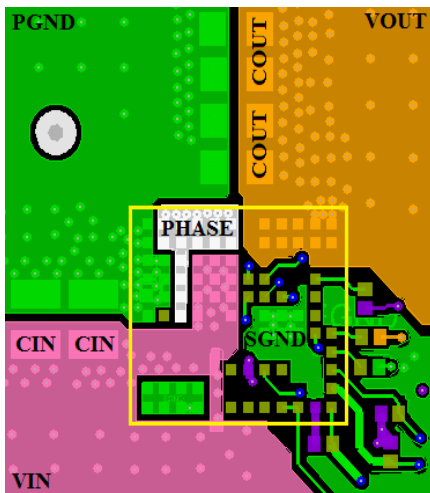
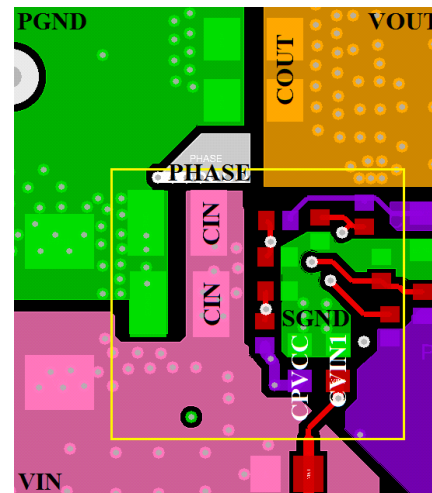

Figure 2. Layout Example - Top Layer
Figure 3. Layout Example - Bottom Layer
- (1) Renesas recommends using a six-layer PCB board. Use the top and bottom layer to route VIN and VOUT. Use a full ground plane in the internal layers (underneath the module) with shared SGND and PGND to simplify the layout design. Use another full ground plane directly above the bottom layer. Use the other internal layers to route the remote sense, PGOOD, SCL, SDA, and SALERT signals.
- (2) Place the input capacitors and high frequency decoupling ceramic capacitors between VIN and PGND as close to the module as possible. The loop formed by the input capacitors, VIN, and PGND must be as small as possible to minimize high frequency noise. Place the output ceramic capacitors close to VOUT. Use a copper plane to connect the output ceramic capacitors to the load to avoid any parasitic inductances and resistances. See Figures 2 and 3 for example layouts.
- (3) Use large copper planes for power paths (VIN, VOUT, and PGND) to minimize conduction loss and thermal stress. Use multiple vias to connect the power planes in different layers.
- (4) Do not oversize the copper planes for the PHASE planes. Because the PHASE planes are subjected to very high dv/dt, the parasitic capacitor formed between these planes and the surrounding circuitry tends to couple the switching noise. Ensure that none of the sensitive signal traces are routed close to the PHASE plane.
- (5) Place the PVCC and VIN1 bypass capacitors underneath the PVCC and VIN1 pins and connect their grounds to the SGND. For the external pin-strap resistor dividers connected to PROG1, PROG2, PROG3, and PROG4, connect the low side dividers' ground to the SGND. If a local decoupling capacitor is used to bias these resistor dividers, place the decoupling capacitor close to the dividers and connect the capacitor's ground to the SGND. An example layout is illustrated in Figure 3.
- (6) Connect remote sensing traces to the regulation point to achieve a tight output voltage regulation. Route the remote sensing traces in parallel underneath the PGND layer and avoid routing the sensing trace near noisy planes such as PHASE. Place 2Ω resistors close to both VSEN and RGND to dampen the noise on the traces.